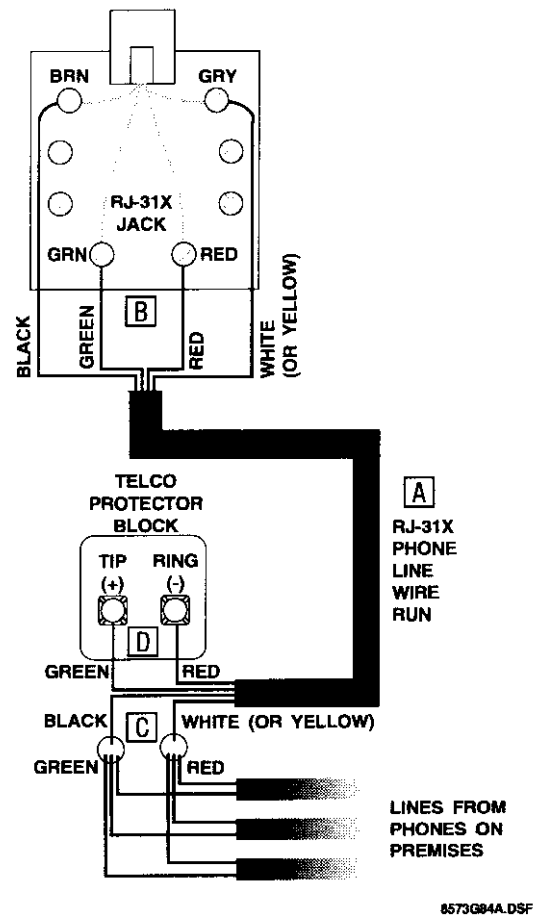

Figure 13. Installing an RJ-31X Phone Jack
Connect speakers to the panel as shown in Figure 13.
1. Run a 4-conductor cable from the TELCO protector block to the jack location (see [A] in Figure 13).
2. Connect one end of the cable to the jack (see [B] in Figure 13).
3. At the TELCO protector block, remove the premises phone lines (lines from phone jacks on premises) from the block and splice them to the black and white (or yellow) wires of the 4-conductor cable (see [C] in Figure 13).
4. Connect the green and red wires from the 4-conductor cable to the TIP (+) and RING (-) posts on the block (see [D] in Figure 13).